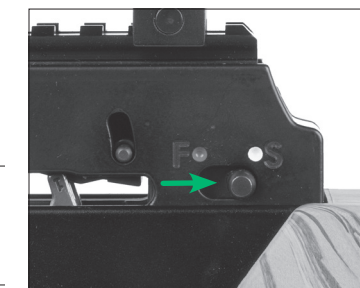

FIGURE 17
Before loading an arrow, make sure the safety is engaged. When the safety is engaged, the safety switch will be under the (S)AFE position and the white dot (Fig. 17).
To manually engage the safety, slide the safety switch (Part 20) backwards until you hear and feel the safety switch click into place. Confirm that the safety switch has moved from under the (F)IRE position and the red dot to under the (S)AFE position and the white dot, as illustrated in Figure 17.
**⚠️ WARNING:** IF, FOR ANY REASON, THE SAFETY SWITCH WILL NOT FULLY CLICK INTO THE (S)AFE POSITION WHILE THE CROSSBOW IS COCKED, SAFELY DE-COCK THE CROSSBOW BY FIRING AN ARROW AT A SAFE TARGET. DO NOT USE THE CROSSBOW OR ATTEMPT TO COCK IT. PLEASE CALL CENTERPOINT ARCHERY CUSTOMER SERVICE AT (866) 726-1122 TO ARRANGE FOR AUTHORIZED REPAIR.